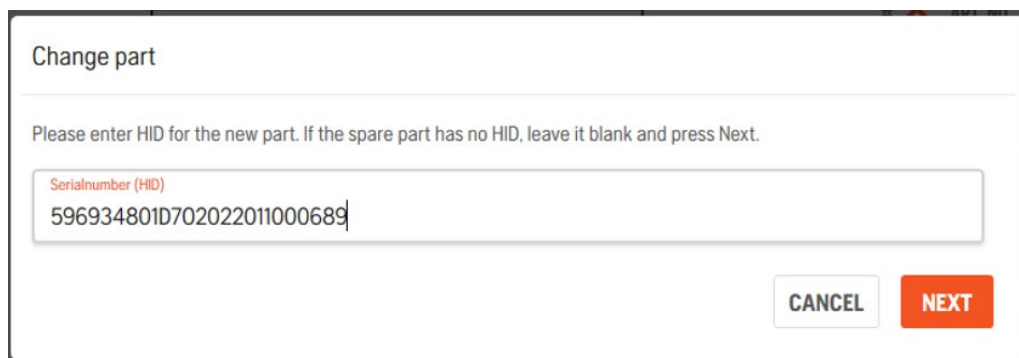

Figure 10:
11. It is now time to enter the HID of the new part that has replaced the old one. Enter the HID of the new part and click “Next” (figure 10).